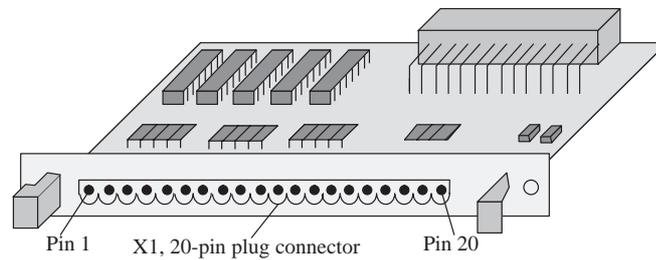

Figure C-3 Structure of the parallel module
**Structure** Figure C-3 shows the structure of the parallel module.